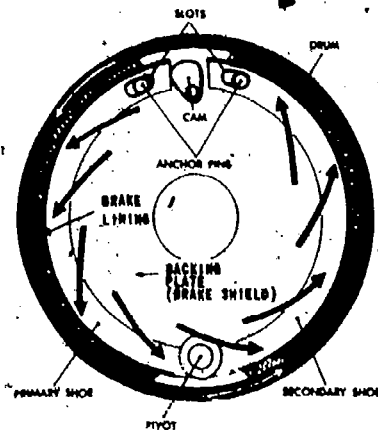

Fig 2-47. Internal-expanding brake.
- (1) General. A multiple-disk clutch is one having more than three plates or disks. Some have as many as 11 driving disks and 10 driven disks. The multiple-disk type of clutch has a greater frictional area than a plate clutch, and is best suited as a steering clutch on crawler-tractors. Operation is similar to a typical automotive clutch. It is spring-loaded so that it is normally in the engaged position. Steering clutch levers enable the operator to disengage the clutches and stop the flow of power to either or both tracks.
- (2) Crawler controls. Steering of the Case MC 1150 scooploader is accomplished through clutches located within the power shift transmission. On this vehicle the clutches are called crawler controls because they control the direction of travel (forward and reverse) and the steering of the tractor (right or left). There are two clutches and one brake to control each track. The clutches are multiple-disk type that are engaged by hydraulic pressure and released by spring pressure. The clutches operate in the transmission oil and are wet type. Since they are engaged by hydraulic pressure and cooled and lubricated by oil, there is very little wear and no adjustments are provided. The steering brakes are located to the front of the tractor and also operate in oil. There are no operator adjustments for the brakes even though they are controlled through mechanical linkage.
- (3) Steering controls. The steering of the 82-30M crawler tractor is accomplished through steering clutches located in the reduction gearing case. The steering control levers actuate a master cylinder which transmits hydraulic pressure to a clutch and brake control valve to disengage the clutch and engage the brake. Hydraulic pressure from the torque transmission engages the clutches which operate in oil. The steering control hydraulic system is a separate system from the hydraulic system that engages the clutch. The steering control system replaces the mechanical linkage as used on other crawler tractors. There are no operator adjustments on the steering clutches or the parking brakes.
- (4) Steering clutch booster. Considerable effort on the operator's part would be needed to disengage the steering clutch levers unless some form of booster or aid were used. It may be either a spring or a hydraulic booster. Booster springs were used extensively on older model tractors. Adjustment of the springs was relatively simple and was usually done only one time. Hydraulics are used widely today and require relatively little adjustments and servicing. It is very important that care be taken to use clean oil when servicing the units. The adjustments to the booster only affect the ease with which the control levers are moved, not the action within the steering clutch assemblies. Adjustments for the Case MC 1150 scooploader and the 82-30M are performed by specially trained personnel.
- (5) Maintenance. The steering clutches and brakes of the newer crawler-tractors require little or no operator adjustments, but the hydraulic systems must be carefully maintained. They must be kept filled to the proper level with the correct oil at all times. The system must be protected from foreign matter such as dirt, water, and small particles that would damage the system. The clutch compartments must be kept as dry as possible and the parts lubricated as specified by the TM. Other tractors are similar and specific instructions can be found in the TM's.
c. Brakes and functions. Brake types, classifications, and principles of operation are similar to clutches. As stated earlier, the major difference between a brake and a clutch is that a clutch transmits power, while a brake stops rotation. There are disk, internal-expanding, and external-contracting brakes. The most commonly used types of brakes are the external-contracting and internal-expanding. The principal parts of a brake are the shoes which have a nonmetallic lining riveted or bonded to them. They are normally anchored to the vehicle to serve as the stationary member. The other friction surface is usually a machined metal surface on a rotating part. The parts of one type of internal-expanding brake are shown in figure 2-47.
- (1) Brake control and operation. A brake can be controlled by the same methods as a clutch. As indicated in figure 2-47, some brakes are designed to add additional pressure through their action. Brake systems are often referred to as service, parking, transmission steering, and operating. Service brakes are those used by stopping or controlling vehicle speed under normal conditions. Parking brakes, used to hold the machine when stopped, are sometimes called emergency brakes. Transmission brakes are used to slow or stop the transmission and power train parts for easier and faster shifting of transmission gears. Operating brakes are those used to control equipment and its attachments. Steering brakes are those used to steer crawler type equipment.